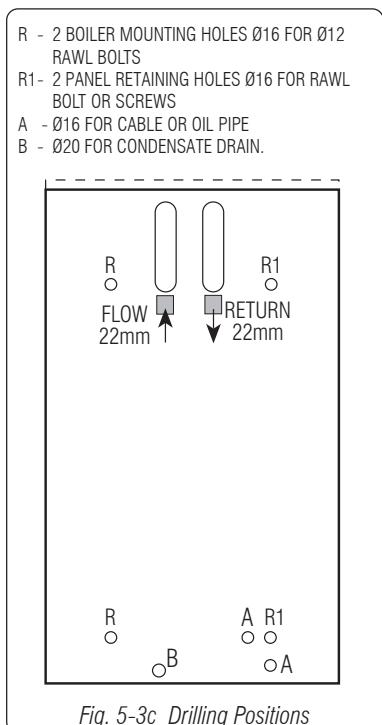

Fig. 5-3c Drilling Positions
9. Offer back panel to the position required on the wall and use this as a template to mark the drilling positions for the 2 mounting rawl bolts 'R' - see Fig 5-3c.
The mains electricity supply, preferably from a spur switched and fused 5 amp, should enter the Boiler casing through one of the holes - see Fig. 5-3c.